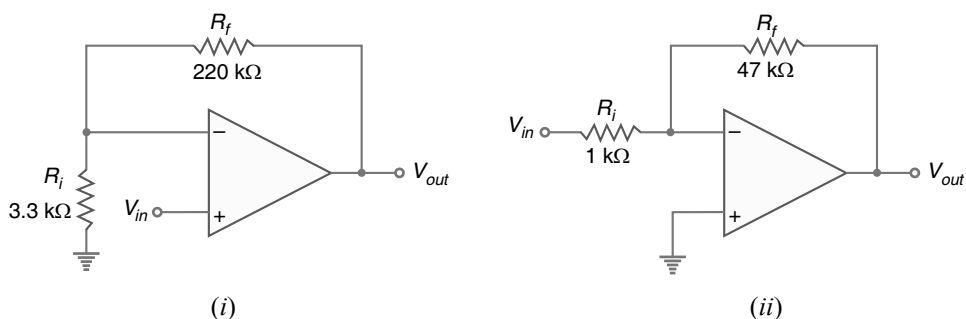

Fig. 23.61
**Example 23.36.** Determine the bandwidth of each of the amplifiers in Fig. 23.61. Both OP-amps have an open-loop voltage gain of 100 dB and a unity-gain bandwidth of 3MHz.
- (i) For the noninverting amplifier shown in Fig. 23.61 (i), the closed-loop voltage gain ( $A_{CL}$ ) is
- (ii) For the inverting amplifier shown in Fig. 23.61 (ii),